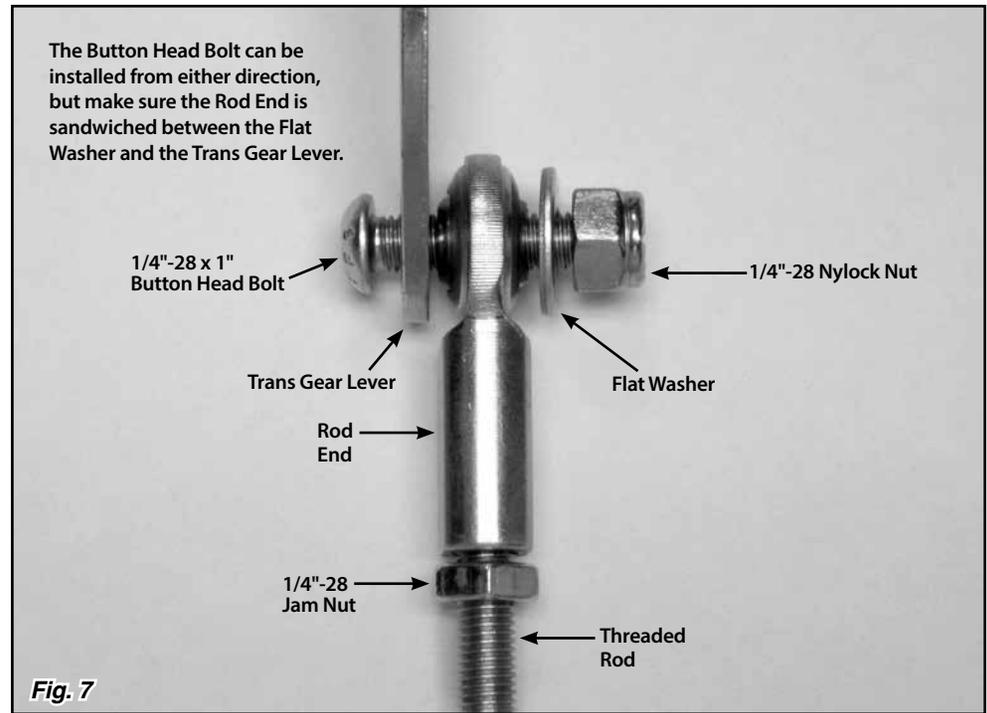
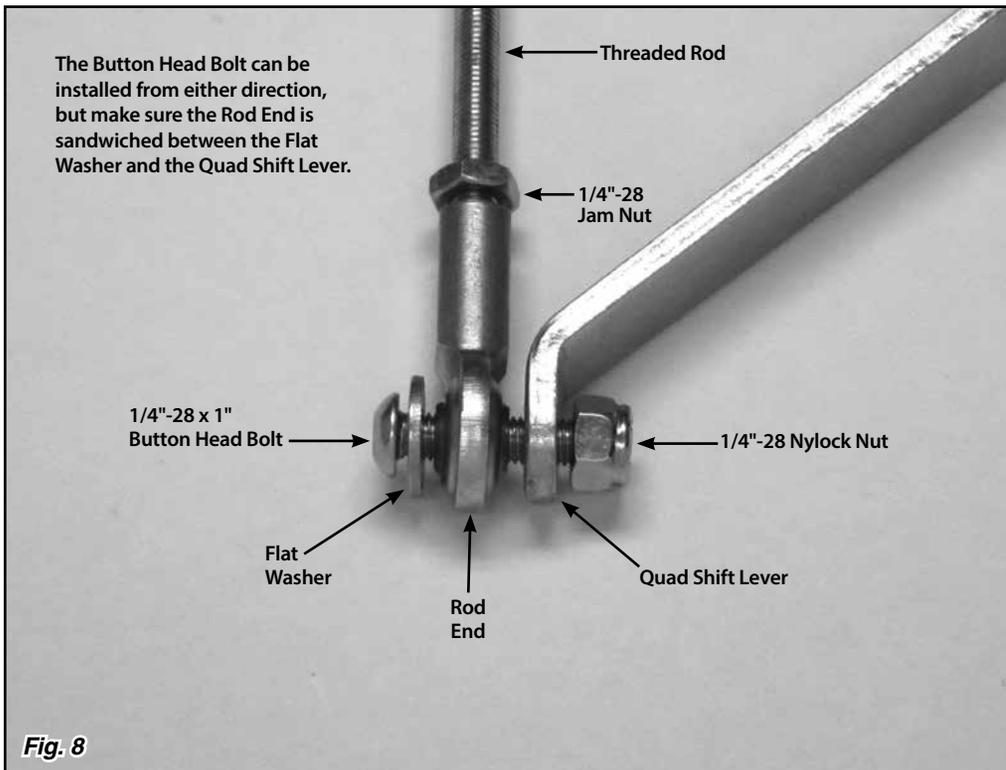

Fig. 7
Fig. 8
Step 11: Make sure a jam nut is still present on each end of the threaded rod, and install a rod end onto each end of the threaded rod. Attach the threaded rod assembly to the **inside** of the trans gear lever and to the **outside** of the quad shift lever using the 1/4"-28 x 1" button head bolts, flat washers, and nylock nuts as shown in **Fig. 7** and **Fig. 8**. The button head bolts can be installed from either direction, but make sure the rod end is sandwiched between the flat washer and the trans gear lever or quad shift lever.